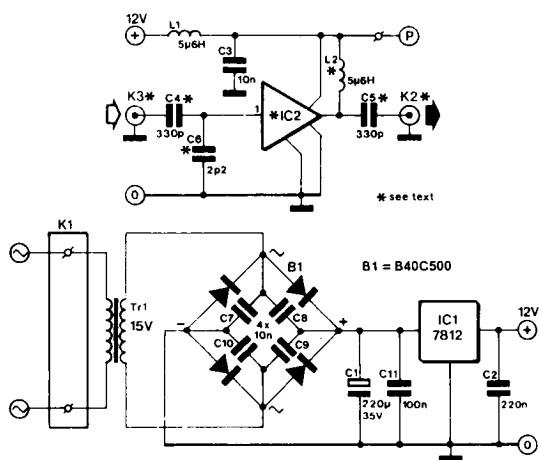

Fig.1 VHF/UHF Wideband Amplifier
The circuit diagram in Fig.1 demonstrates the simplicity of a VHF/UHF wideband amplifier set up around one of the new OM20xx devices. Apart from a supply and, of course, the hybrid chip, all that is needed to obtain a complete RF amplifier are two capacitors and a small choke if a two or three-stage amplifier chip is used. Thanks to the simplicity of the circuit, it can be housed in a compact enclosure.
No, this is not a guide to the Bakerloo, Piccadilly, or central line interchange stations! - although there is an electronic connection to that!! (Fig.1).
**Fig.1** The original London Underground map was accurate in scale and layout. The modern (1930's) version was designed by Harry Beck, an engineer, to show connections, like a circuit diagram. A contemporary magazine produced a circuit diagram based on the map, with electrical puns on station names!!